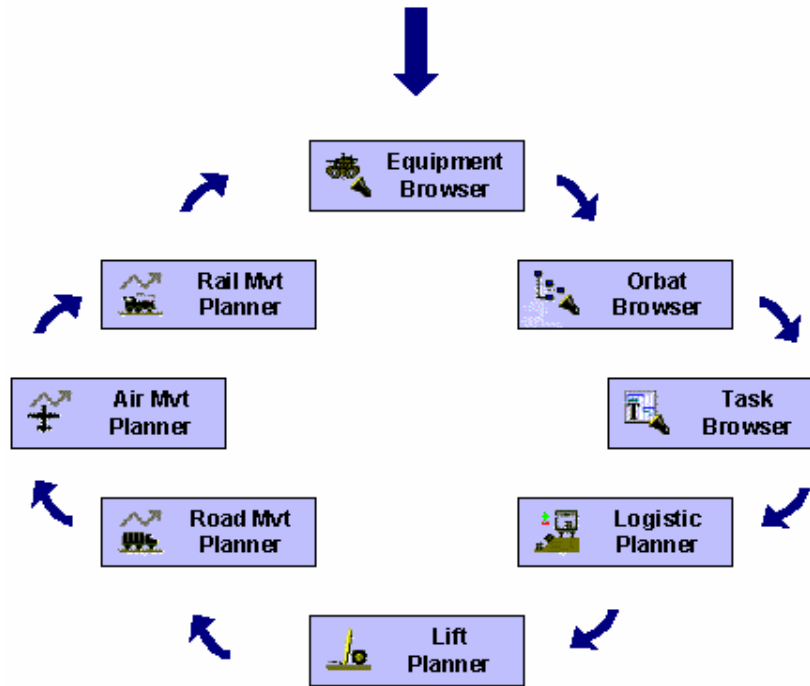

Figure 2: The EBB Suite Browsers and planners
5. The EBB tools usual sequence can also be represented in a circular manner as indicated in figure 2. In fact, once the desired options with the planners have been created, the user can go back to the browsers, do some modifications and then look at the impacts of this change on the existing options. This is particularly interesting in a military context often dominated by ever-changing circumstances that create the need to constantly adjust the number of personnel and equipment available to the units, as well as the tasks that were first assigned to them.
6. The step-by-step guided tour of the EBB Suite will follow the described sequence as indicated in figure 2, starting with the Orbat browser and ending with the rail movement planner. Note that the equipment browser will not be described, since a doctrinal equipment browser is already integrated within all the others tools. But before going any further, there is the need to define a context for the EBB guided tour.